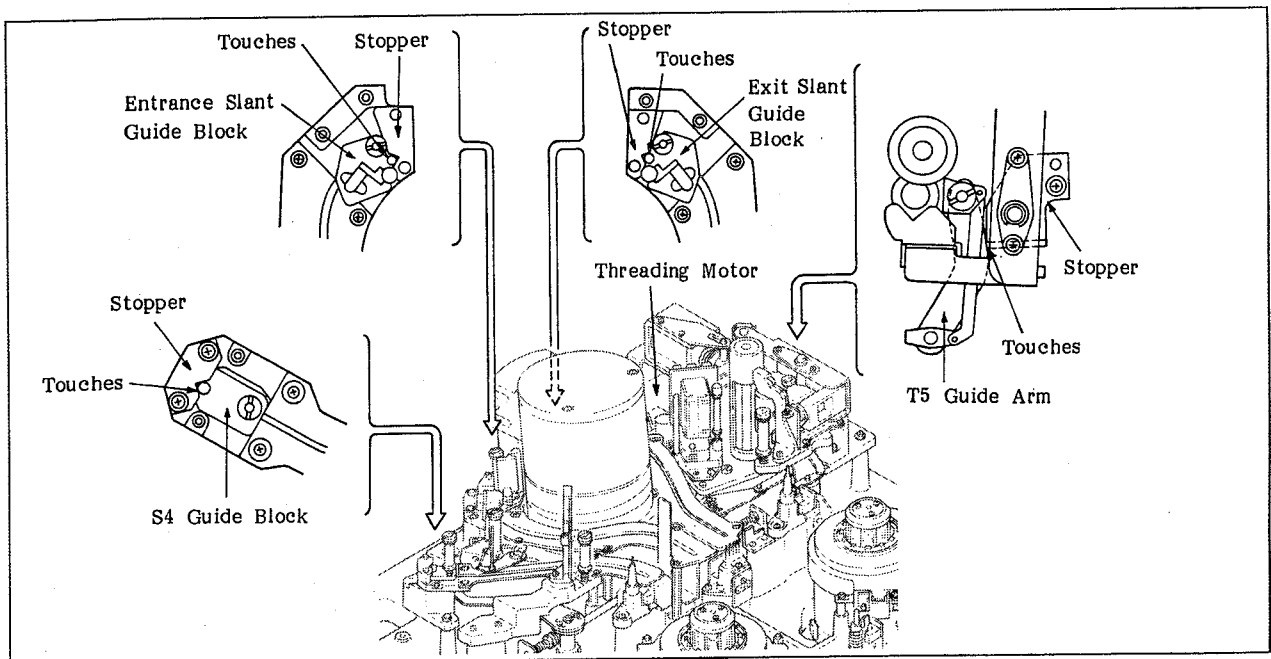

Fig. 6-59. Preparations Made before Adjustment
- Adjust the position by rotating the threading motor manually so that the S4 guide block, the T5 guide arm, the entrance slant guide block, and the exit slant guide block touch each stopper at the same time (each limiter starts to function), as shown in the four top views in Figure 6-59. If they do not touch at the same time, detach gear H from gear I, and turn the driving shaft manually so that the block touch each stopper at the same time.